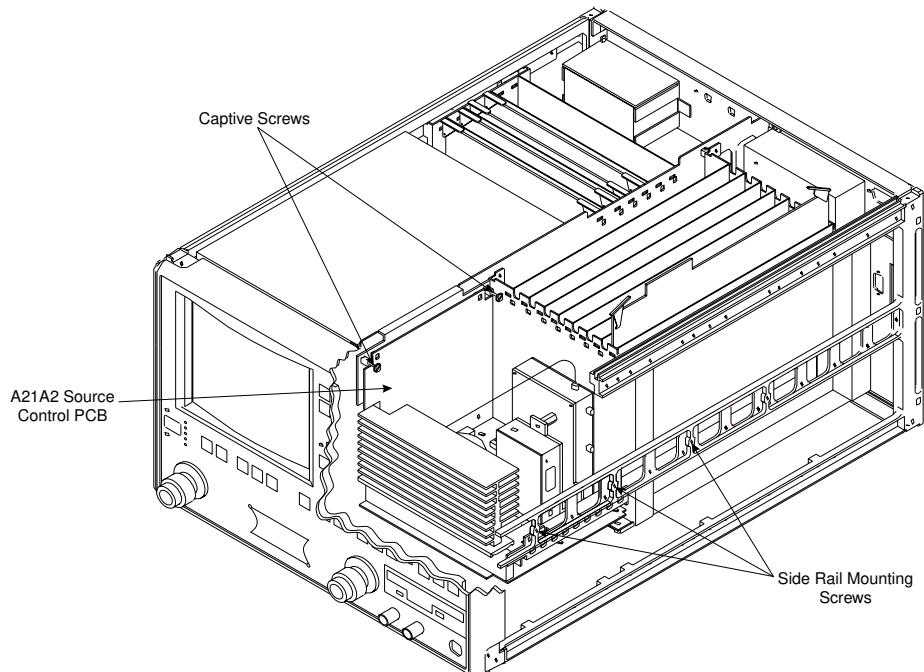

Figure 8-15. Signal Source Module Removal Details
- Step 7. Remove the three screws that fasten the Signal Source Module to the chassis side rail. See Figure 8-15.
- Step 8. Loosen the two captive screws that fasten the Signal Source Module to the chassis (Figure 8-15).